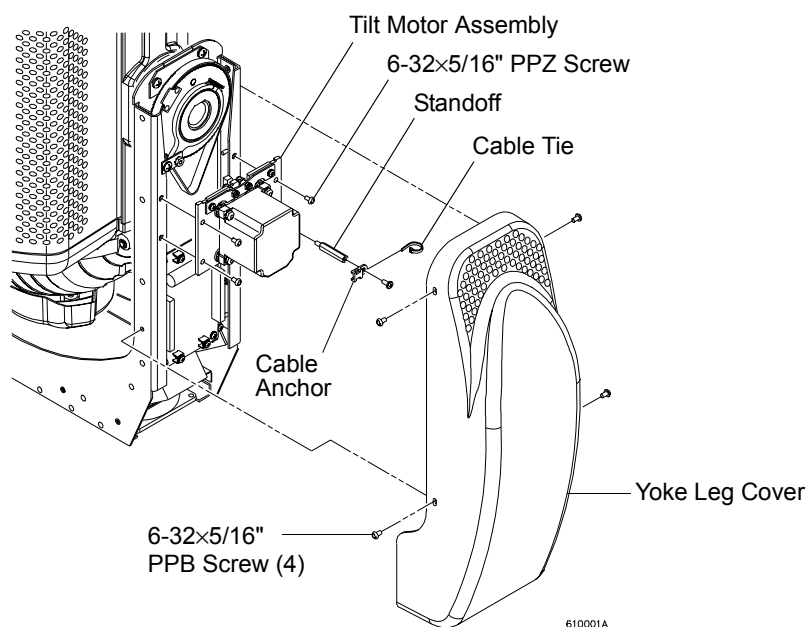

Figure 2-10: Tilt Motor Assembly Replacement
- Step 2. At tilt-side leg, remove yoke leg cover by removing four 6-32×5/16" PPZ screws. **Figure 2-10**. To find the tilt-side leg, refer to "Yoke Components" on page 9.